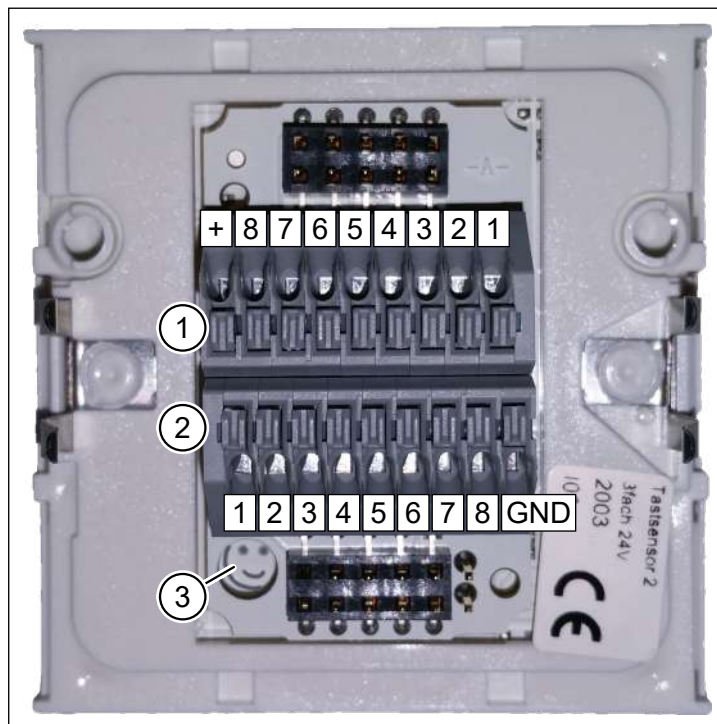
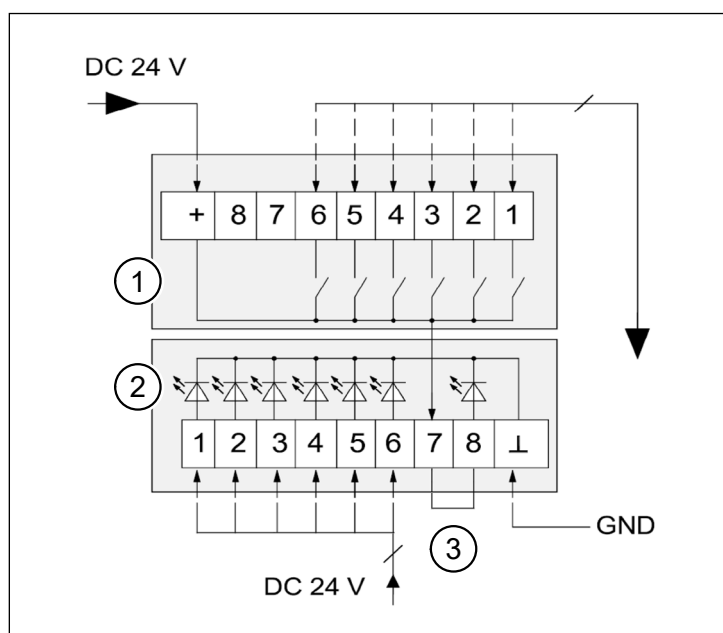

Fig. 25: InControl pushbutton sensor with terminal assignment
Fig. 26: InControl pushbutton sensor connection diagram
Item in Fig. 25	Designation
Use the smiley (item 3 in Fig. 25) as an orientation guide. It is only in this position that the connections on the terminal blocks agree with the connections identified in the connection diagram (Fig. 26).
Item in Fig. 26	Designation
The InControl pushbutton sensor has a backlight that can be activated if required. Place a bridge (item 3 in Fig. 26) across terminals 7 and 8 of the terminal block for LEDs to supply 24 V DC to the backlight.